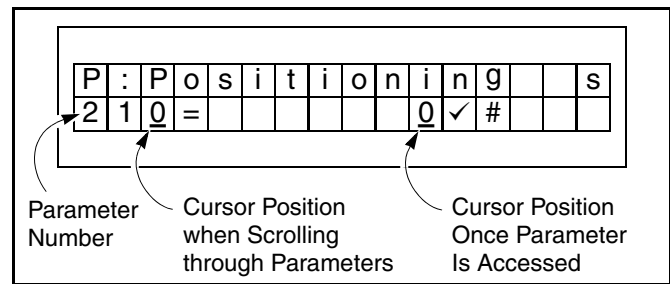

Figure 22
- Press the reset (●) key to access the displayed parameter. The parameter is accessed when the cursor jumps over to the currently saved value for that parameter. (See Figure 22.)